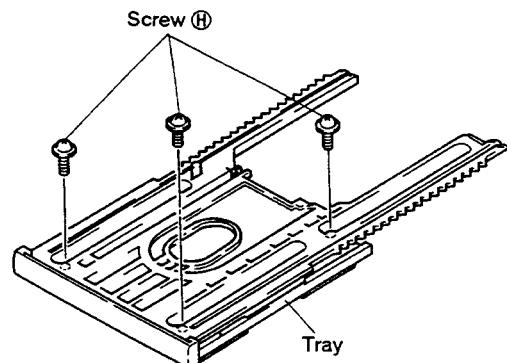

Fig. 2-14
(3) As shown in Fig. 2-14, turn over the tray, and put three screws \textcircled{H} on it.